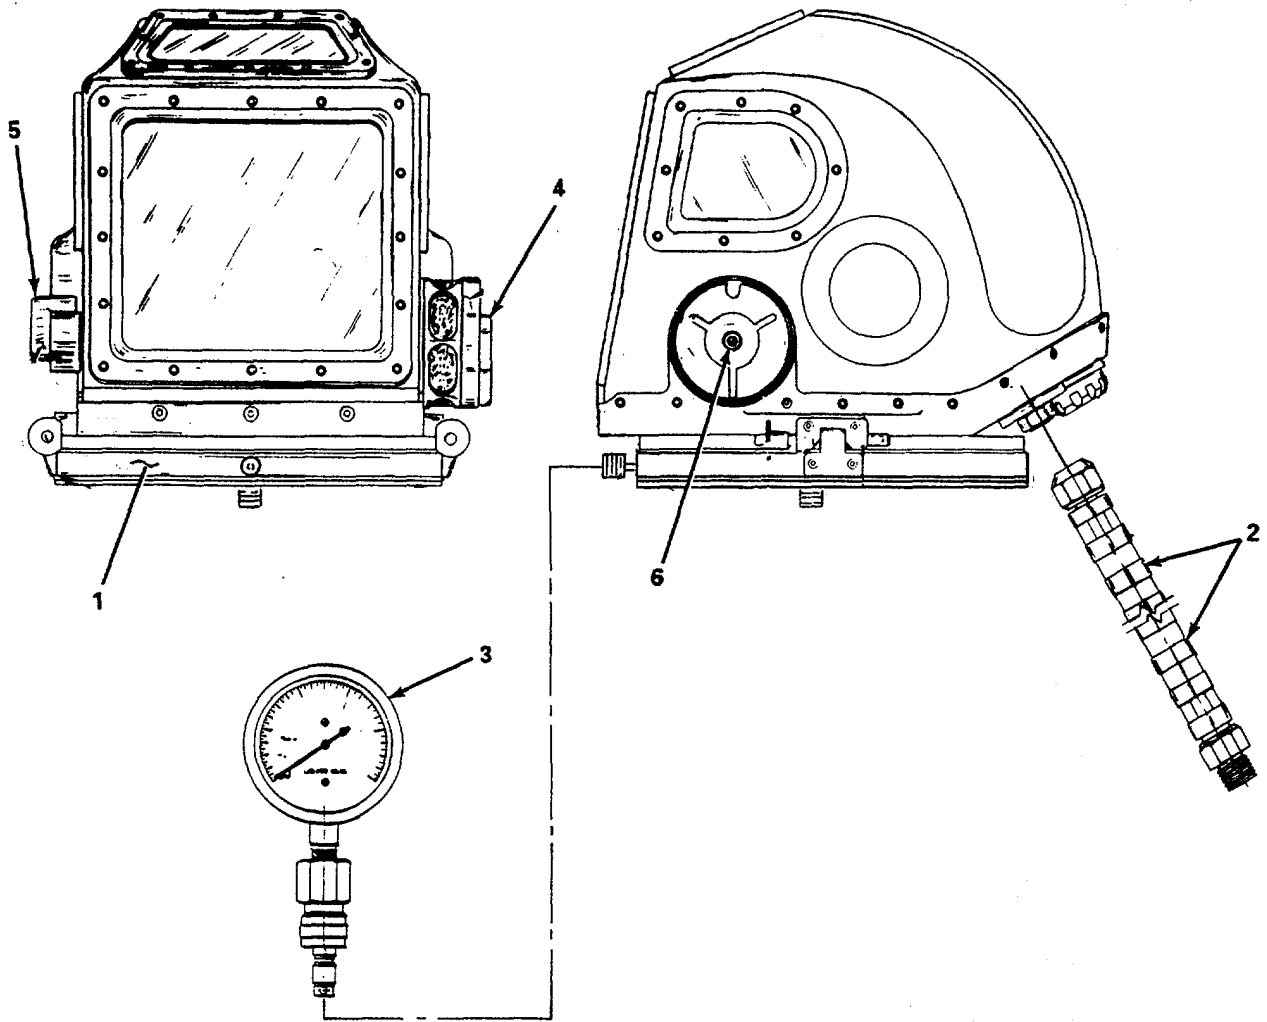

Figure 2-3. Helmet P/Flow and Leak Test.
2-8. **Test Procedures.** These procedures require the use of the MK12 SSDS Test Set. Only diver's compressed air will be utilized with the test set. A schematic diagram of the test set with a valve lineup matrix is shown in figure 2-3. Procedures should be performed in the step-by-step sequence listed to avoid errors and prevent damage. Each test is written as an independent function for the purpose of testing, following PMCS procedures. During pre-dive testing, transition from one test to another may be simplified by skipping those steps marked with an asterisk (*). All tests are to be performed daily during pre-dive procedures with the exception of the relief valve test, and the drysuit leak test. These are permission functions but will be accomplished as often as the diver supervisor deems necessary. For example, as new suits are brought to the dive station or after repairs have been effected due to damage incurred during previous dives.
- (10) Reconnect vacuum pump (4). Bleed off until the vacuum gage (8) indicates zero.
- (11) Turn the VAC/AIR trigger (7) to AIR.
- (12) Disconnect and stow the vacuum pump (4).
- (13) Remove vacuum gage (8) and stow.
- *(14) Remove the air whip (1) from the helmet air adapter (2) and the test set adapter (3).
- *(15) Reinstall the protective cap on the helmet air supply adapter (2) and the plug on the test set outlet (OUT) (1) adapter.
- *(16) Secure all equipment and stow as required.
b. Helmet P/Flow and Leak Test (figure 2-3).
- *(1) Install blanking plate (1).
- *(2) Remove the protective cap and gasket from the helmet air adapter and connect air supply whip (2).
- (3) Connect air whip to air supply of 100 psi.
- (4) Connect pressure gage (3) to quick disconnect on blanking plate (1).
- (5) Open exhaust valve (4).
- (6) Slowly open air supply valve (5) and check that the pressure gage (3) indicates the applied pressure.